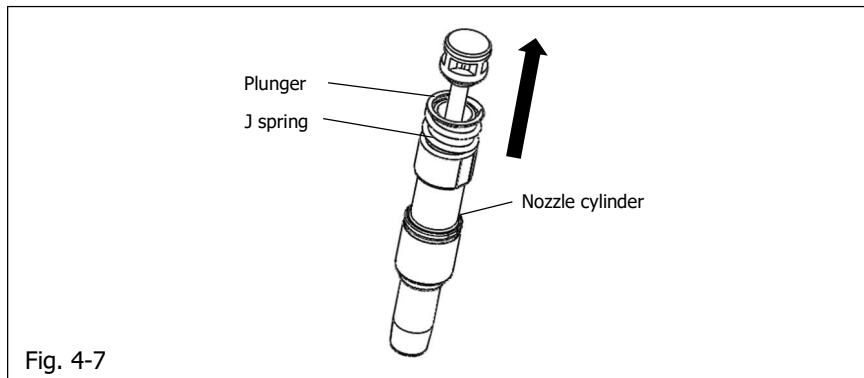

Fig. 4-7
- 2 μL , 10 μL (Fig. 4-7, 4-8)
- 8) Pull out the plunger from the nozzle cylinder, and remove the J spring from the nozzle cylinder. (Fig. 4-7)